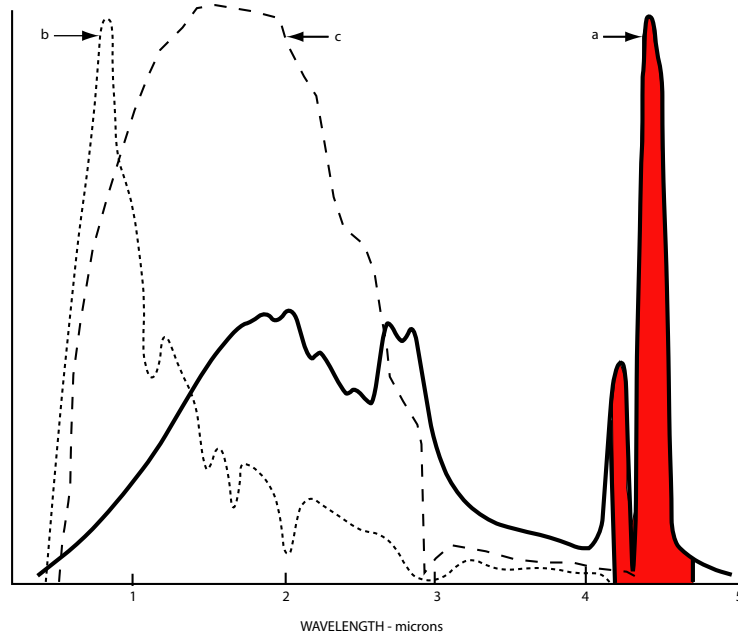

Fig. 1: Spectrums of:
- Fig. 1(a) shows the spectrum of a typical fire of this type
- Fig. 1(b) the spectrum of the radiation of the sun and
- Fig. 1(c) that of a tungsten filament lamp.
In order to exploit these spectral characteristics, the 801FEx uses an optical filter, which transmits infra-red between $4.38 \mu\text{m}$ and $4.56 \mu\text{m}$ (shown shaded in Fig. 1(a)). This bandwidth allows high sensitivity to flames with low sensitivity to other interfering sources.